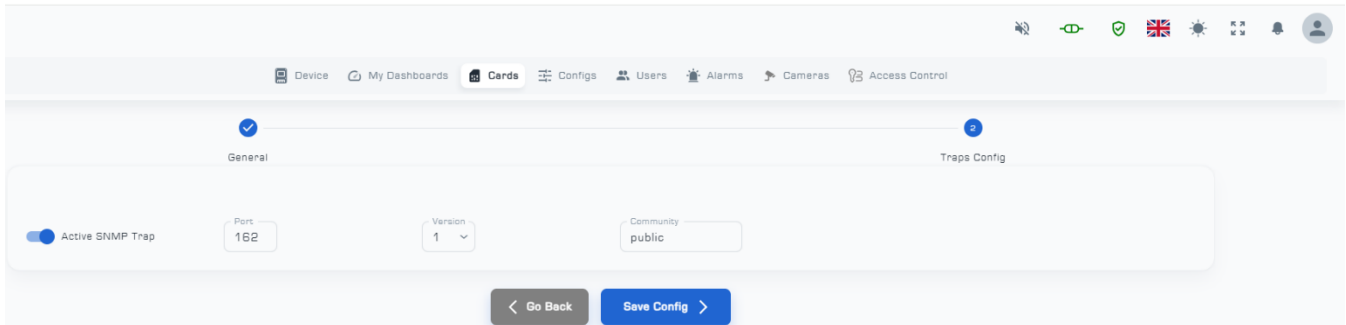

Figure 31: Second page of settings on the card
(5) Select your desired SNMP version (Figure 31).
(6) Finally, click on the 'Save Config' button to save the initial settings (Figure 31).